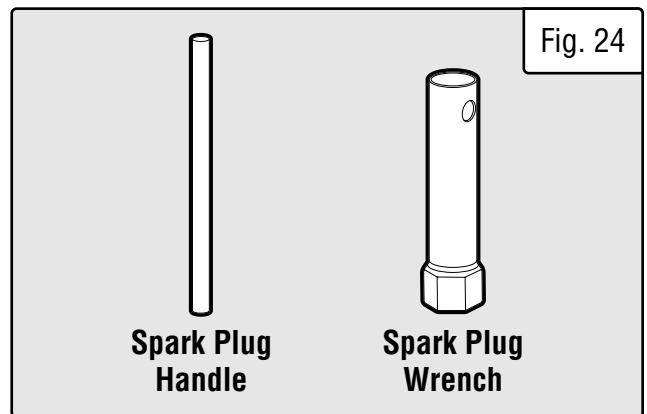

Fig. 24
3. Use the included spark plug wrench to unscrew and then carefully remove the spark plug from the engine (Fig. 24).